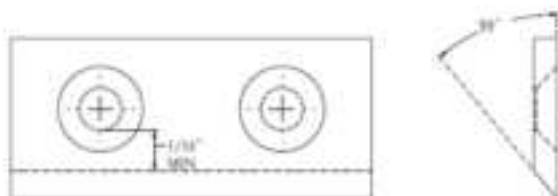

Figure 13- Chipper knife minimum cutting edge
2. The chipping knives may be sharpened at a 39 degree angle until the distance between the edge of the blade bevel and the mounting hole is less than 1/16" (1.6mm). See Figure 13.
6. Inspect, rotate, sharpen, or replace the chipper knife. See Figure 13.